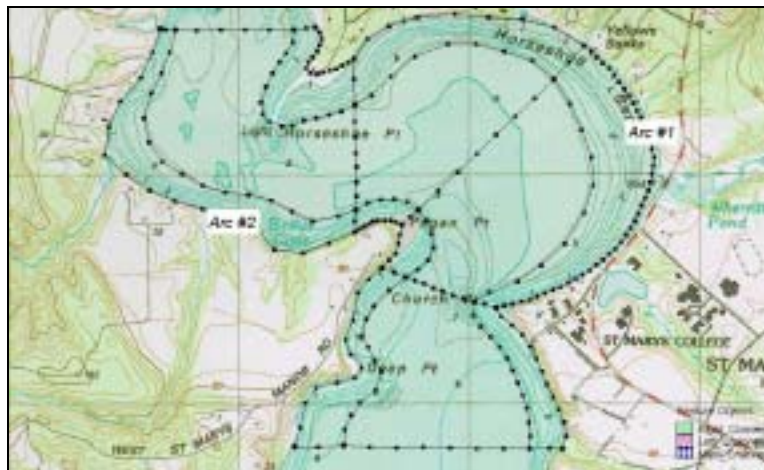

Figure 2-7 Redistribution of Vertices along arcs.
2. Click on the arc to the far right, labeled *Arc #1* in Figure 2-7.